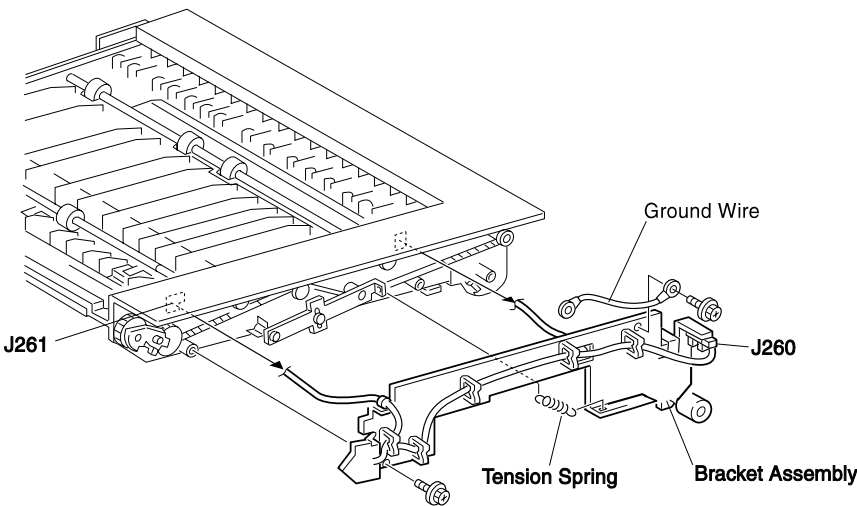

Figure 1
2. Unhook the Tension Spring (Figure 1).